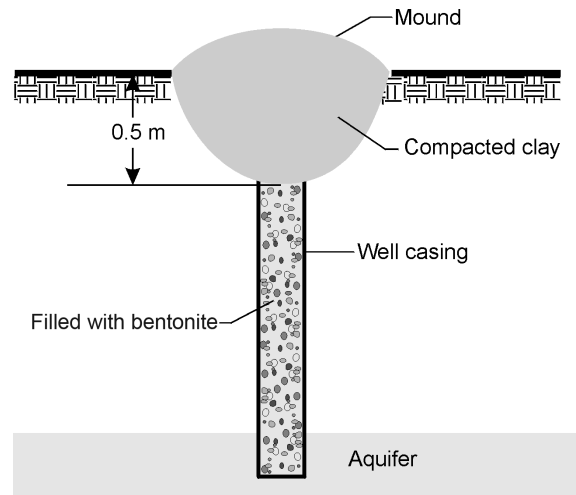

Figure 1. Reclaimed groundwater monitoring well
4. *Surface completion* – From a depth of 0.5 metres to the ground surface, the reclaimed well must be backfilled with material appropriate for the intended use of the land, eg. compacted clay (Figure 1).